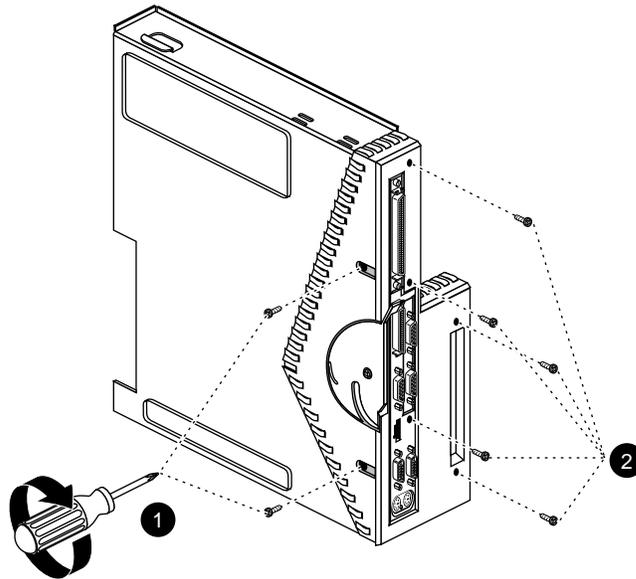

Figure 1-23 Replacing Screws on the Face Plate
3. Use a Phillips screwdriver to insert and tighten the screws in the locations shown (Figure 1-23).